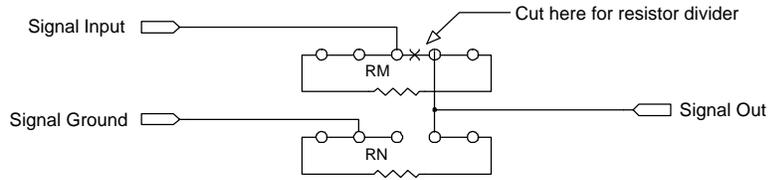

Figure 3.
To configure a current input, place a resistor in the location on the termination board corresponding to the input pin being modified. Figure 3 and Table 1 show resistor placement. The appropriate size for this resistor can be calculated using Ohm's law, given the maximum input current and the input voltage range of the iDSC board.
Once this trace is cut, the resistors for the voltage divider are soldered into place. The resistor on the ground side of the divider is placed in an odd numbered resistor location and the resistor on the input signal side of the divider is placed in an even numbered resistor location. Figure 3 and Table 1 illustrate resistor placement for each input.
** The first resistor is on the ground side of the voltage divider (RN), the second is on the input signal side (RM), as shown in the previous diagram. For example, R31 is RN and R32 is RM. Figure 3 shows the resistor placement.
Table 1 and Figure 3 can be used to locate the appropriate resistors when using either the current input or voltage division configuration. Figure 3 shows schematically how the inputs and grounds on the termination board are connected.